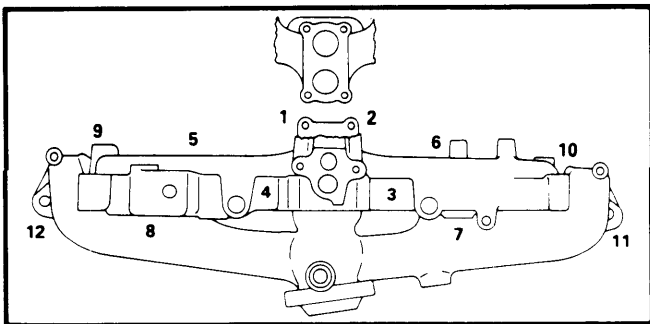

Fig. 1 Manifold Tightening Sequence
Installation — 1) Clean mating surfaces of manifolds and cylinder head. Position exhaust manifold and positioning sleeves over end studs. Secure exhaust manifold to cylinder head at positions 1 and 2, tighten bolts to 23 ft. lbs, and remove positioning sleeves. See Fig. 1.
3) Install remaining nuts and bolts and tighten in sequence as shown in Fig. 1. To complete installation, reverse removal procedures.